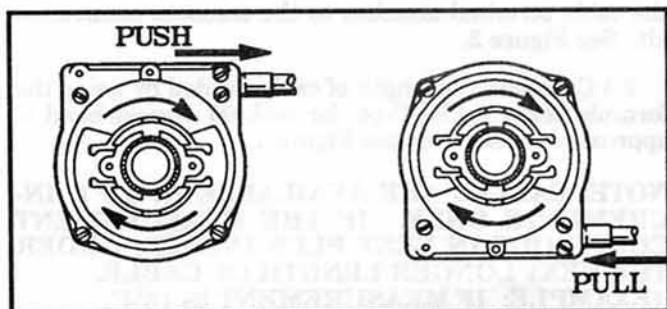

FIGURE 3
3.2 Locate the desired exit of the cable from the Rotary Unit. With the cable path traveling along the right side of the boat, the push for right turn action would be achieved by having the cable leaving the rotary unit at the top right corner. For a pull for right turn action, the cable would leave the rotary unit at the bottom right corner. See Figure 3.